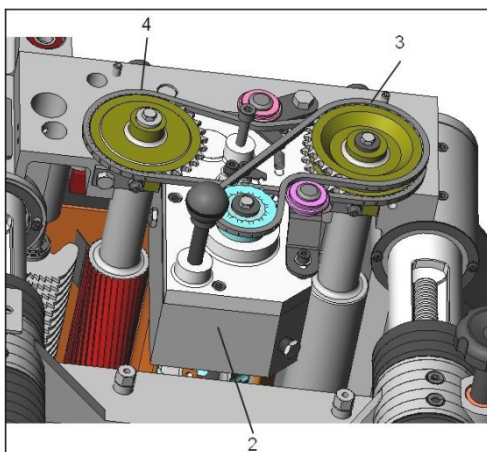

Fig. 30
- The oil in Gear Box must be changed after 2500 hours of work. (Fig. 30)